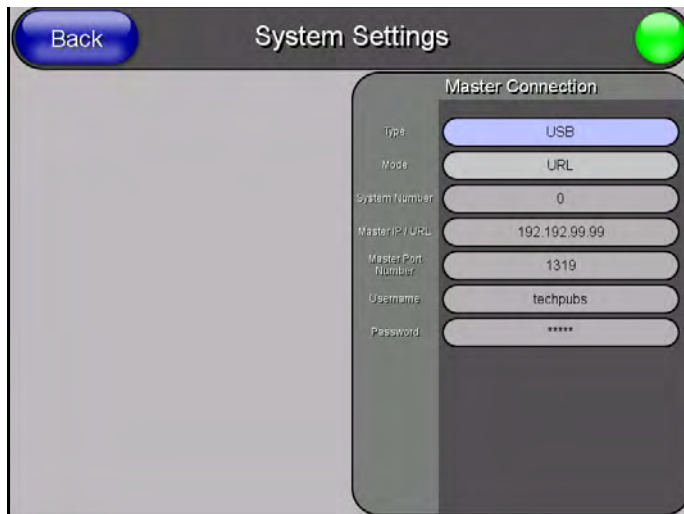

FIG. 26 System Settings page - USB Connection
3. In the Protected Settings page, select **System Settings** to open the System Settings page (FIG. 26).